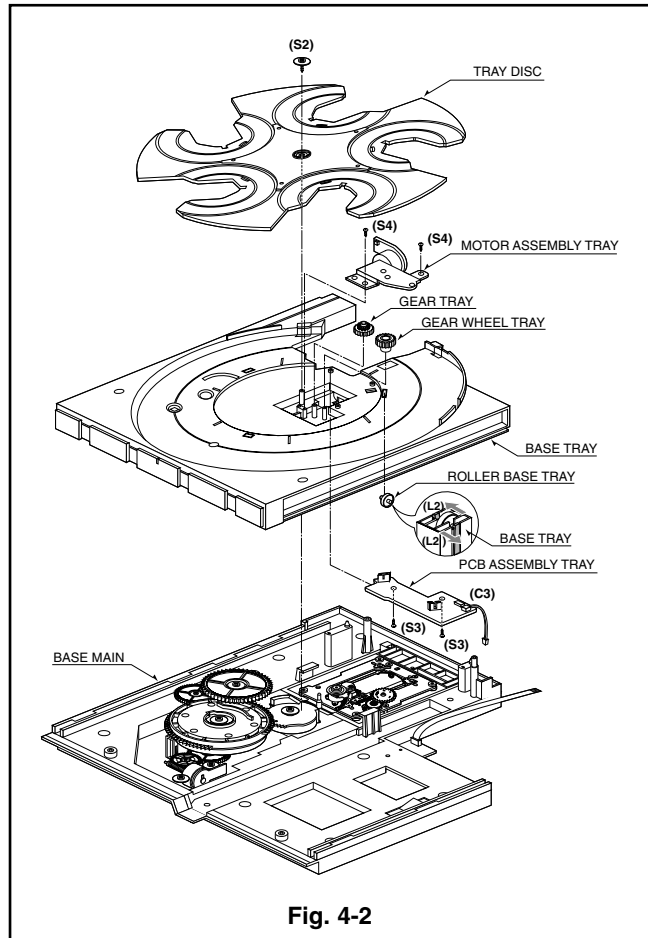

Fig. 4-2
- 2-1. Tray Disc(Fig.4-2)4-2
2-1. Tray Disc(Fig.4-2)